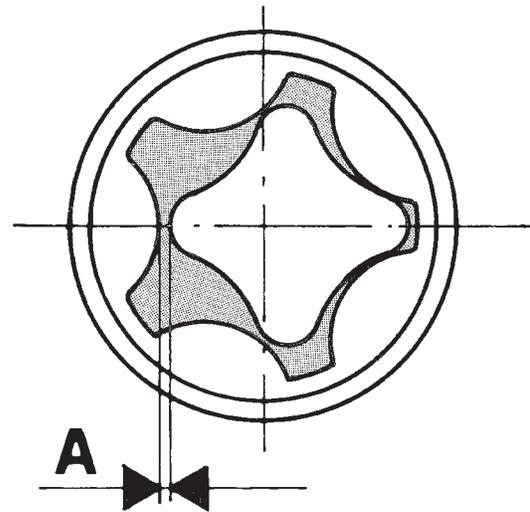

Fig. 93 Checking Rotor Clearance
(2) Check clearance between rotors (Fig. 93).